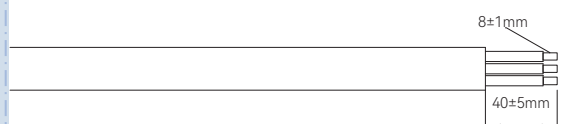

Figure 2.1
a) Prepare a suitable length of AC cable and strip the end at the corresponding position as required. As shown in Figure 2.1.